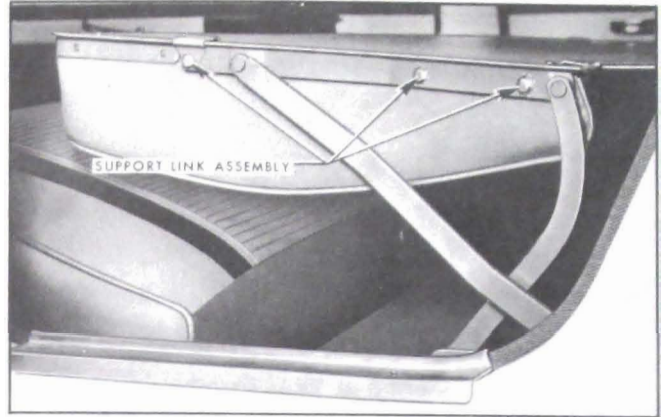

Figure 13-64 — Folding Seat Back Mounting Support Link Assembly
3. At each side of seat, remove screws securing mounting support link assembly to folding seat back assembly. See Figure 13-64.
4. Remove mounting support to folding seat back attaching screws as shown in Figure 13-64 and remove mounting support link assembly from body.